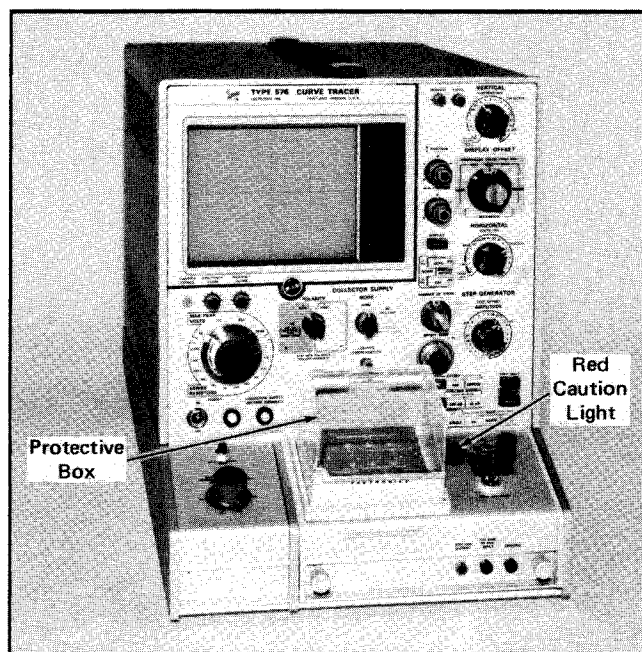

Fig. 2-7. Type 576 Standard Test Fixture with protective box installed for safe operation.
25. Install the protective box on the Standard Test Fixture as shown in Fig. 2-7.